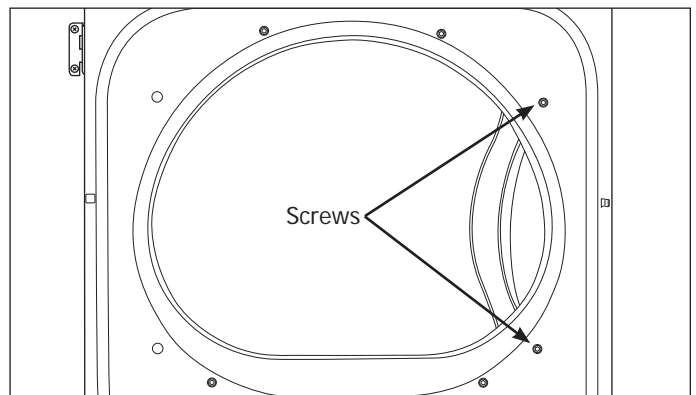

Figure 4-6.
2. Extract the two handle screws with a #2 square bit, and remove the handle by pulling straight out from door. (See Figure 4-6)